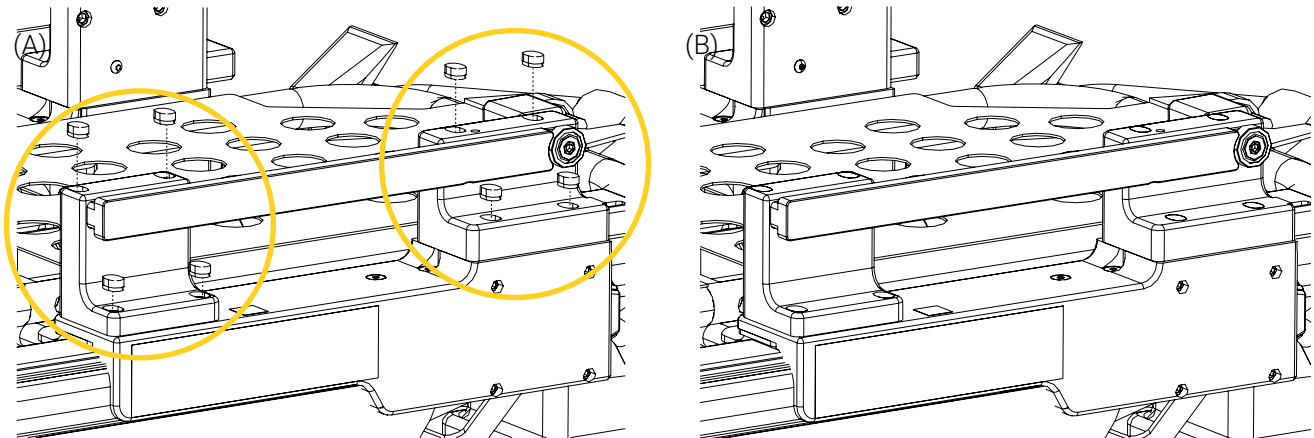

Figure 33: Installation of the screw caps on the clamp blocks of the rail system (patient left)
21. Install eight (8) screw caps on the clamp blocks of each rail system using a punch and mallet, ensuring that they are flat and leveled with the surface of the clamp blocks (Figure 33).